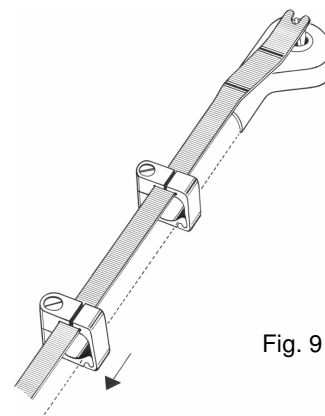

Fig. 9
2. Distance the two fixation clamps from each other (Fig. 9) and fix at approximately the distances indicated in the general illustration (Fig. 2). Align the screw holding device and tighten the fastening screws of the fixation clamps. Please ensure that the fixation clamps are aligned parallel to the retaining spring.